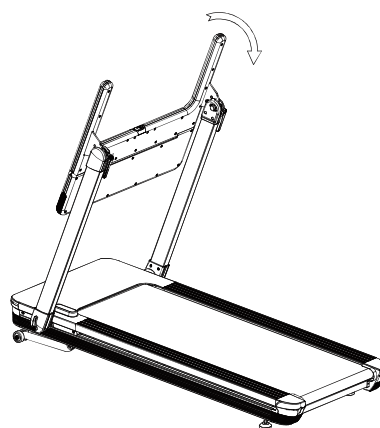

Figure 4
3. After installing the locking pins, press the handle as shown in Figure 4 and turn the handle clockwise to the position shown in Figure 5.